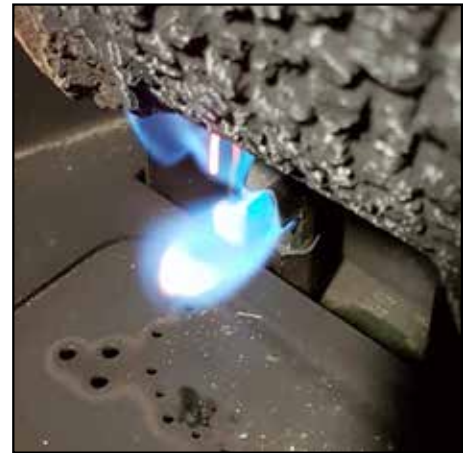

Figure 26. Correct Pilot
8. Reinstall the burner, tray, log set, and glass door. Also refer to SECONDARY INSTALLATION - LOG SET INSTALLATION in your Owner's Manual. When re-installing the burner, ensure that the burner to pilot hood and shield relationship is similar to what is shown in Figure 26.
12. Relight the pilot and confirm the flame properly covers the flame sensor (see Figure 26). Should the pilot require adjustment, turn the adjustment screw (figure 48, page 38) clockwise to decrease or counterclockwise to increase until the correct flame is achieved.